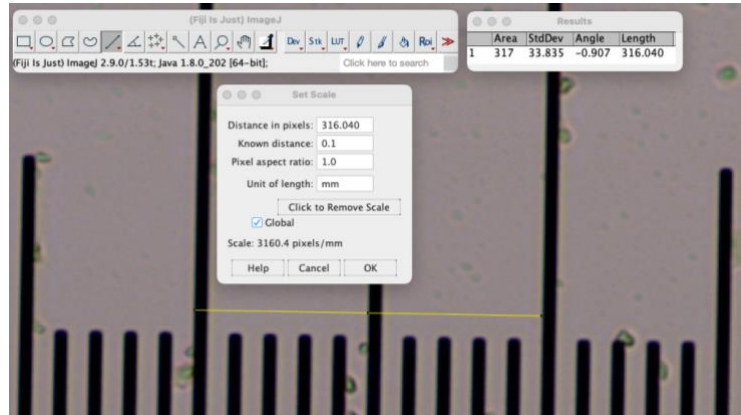

Figure 1-5 Screenshot of setting the scale of an image in ImageJ
- b. As shown in Figure 1-5, enter the pixel distance you measured in step 5 in “distance in pixels” box